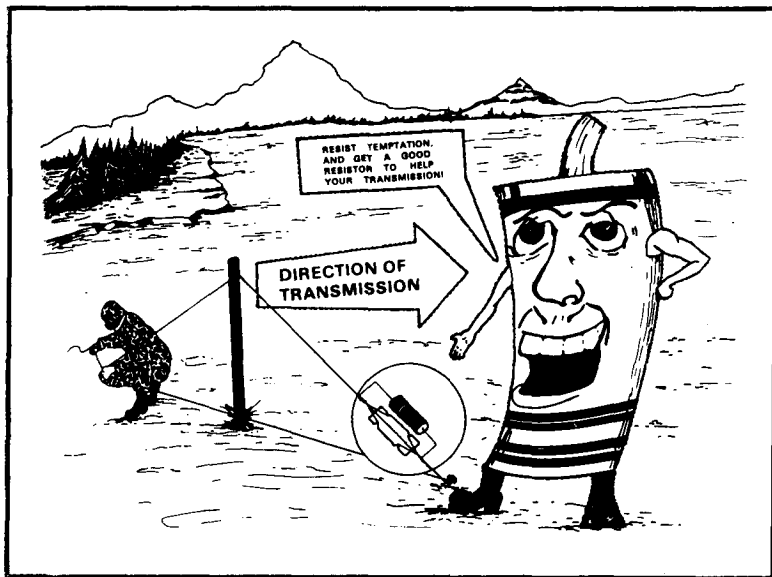

Figure 3-21. Proper resistor.
e. Building a good field-expedient vertical half-rhombic antenna calls for a good resistor, not a dead BA-30 battery or a C-rat can full of sand and oil. Plan ahead. If you can, lay in a supply of the 600-ohm 2-watt resistors. Since 600-ohms is not a standard resistor value, you have a choice. Get a 620-ohm, 2-watt resistor with NSN 5905-00-407-6167, or wire 2 1200-ohm, 1-watt resistors in parallel. Get them with NSN 5905-00-369-6916. Then, follow the directions on how to fabricate antennas. Put the resistor on the end nearest your receiving station. Remember, resistor wattage must beat least half of the radio's output wattage. (See Figure 3-21.)